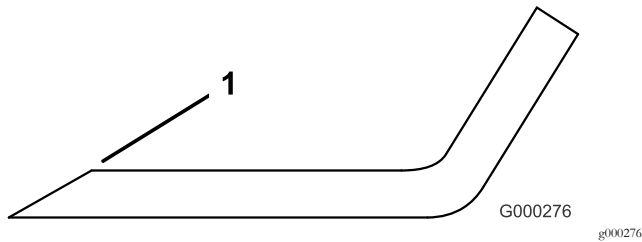

Figure 85
3. Examine the cutting edges of all of the blades. Sharpen the cutting edges if they are dull or nicked. Sharpen only the top of the cutting edge and maintain the original cutting angle to make sure of sharpness (Figure 85). The blade will remain balanced if the same amount of metal is removed from both cutting edges.